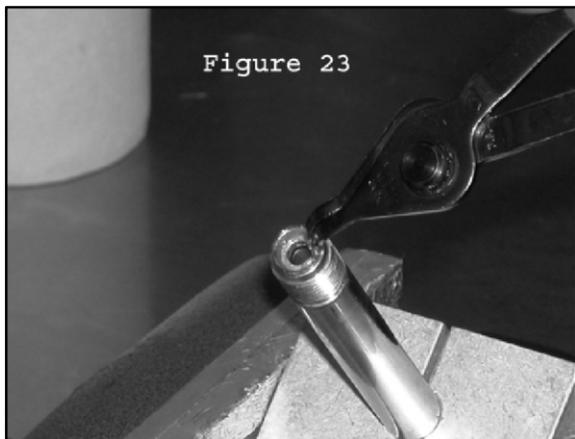
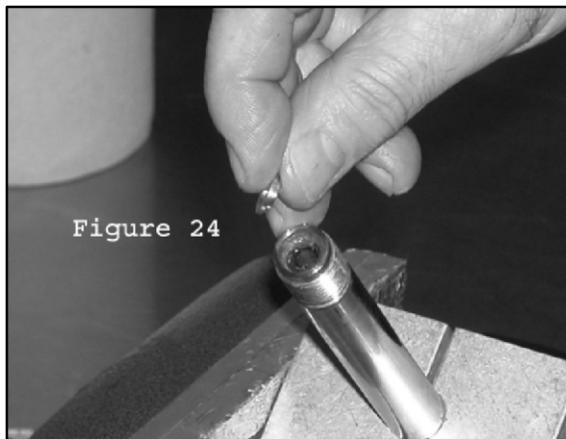

Figure 23
Figure 24
52. Use snap ring pliers to remove the retaining ring from the shaft end. (Fig. 23) Use a scribe or dental pick to remove the brass support washer and metering rod o-ring from end of shaft. (Fig. 24) Use extreme caution not to scratch o-ring gland. Clean all thread locking compound from the end of the shaft.